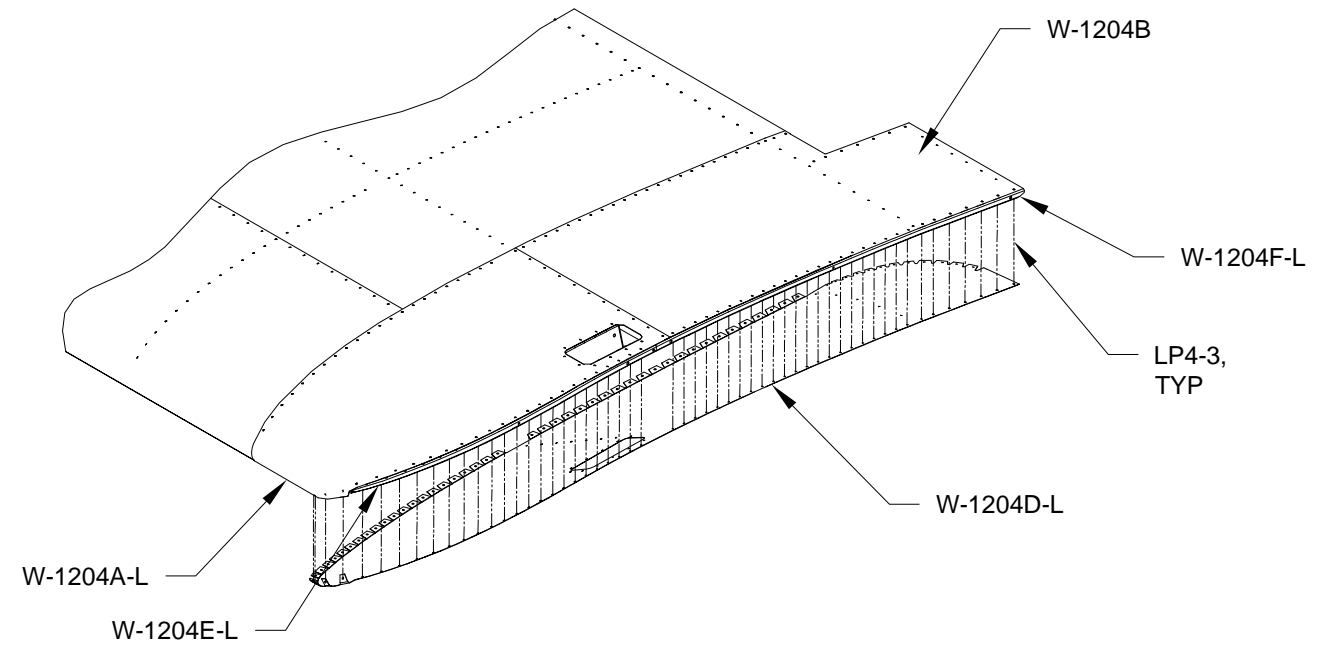

FIGURE 3: ATTACHING THE WING TIP CLOSE-OUT
Step 2: Cleco the W-1204D-L Wing Tip Close-Out to the wing as shown in Figure 3. Check to be sure that the fit is good and adjust the bend angles of the wing tip close-out tabs if/as required. When satisfied with the fit of the wing tip close-out, rivet to the wing.